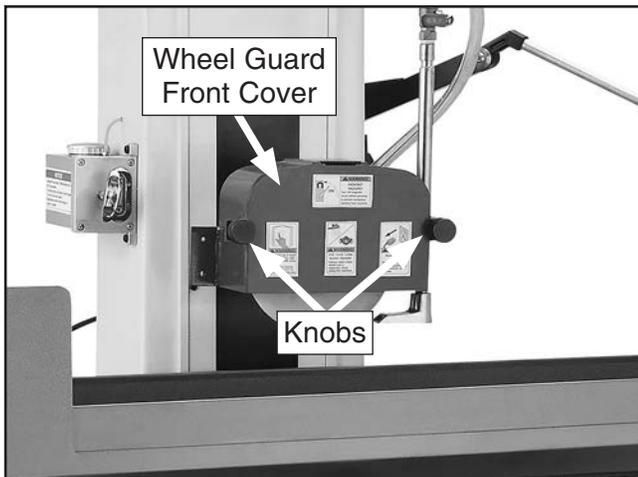

Figure 35. Wheel guard components.
4. Loosen the knurled knobs shown in **Figure 35**, then remove wheel guard front cover.